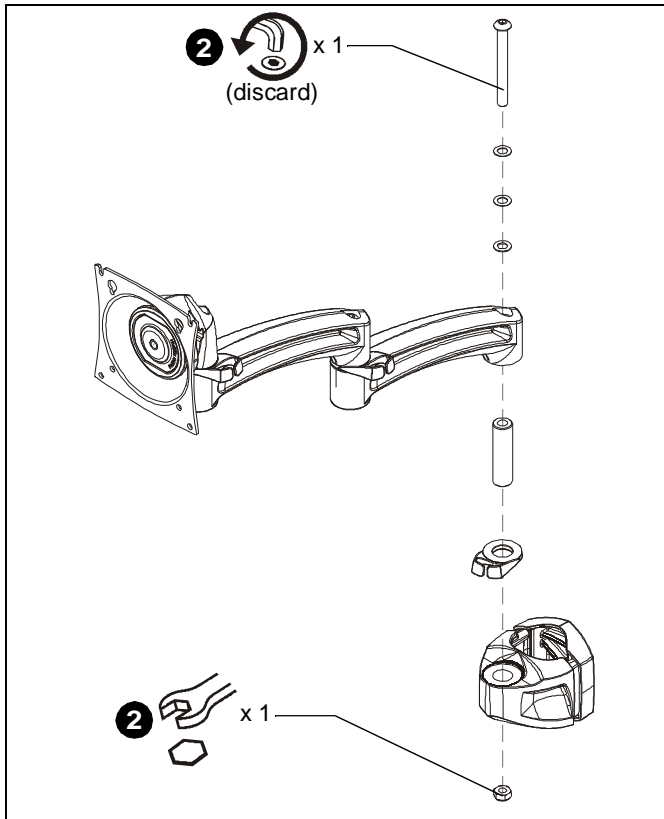

Figure 1
- Loosen lock nut and 3" button head cap screw located in arm to remove arm from mount. **SAVE ALL HARDWARE AND MOUNT ARM EXCEPT 3" SCREW!** (See Figure 1)